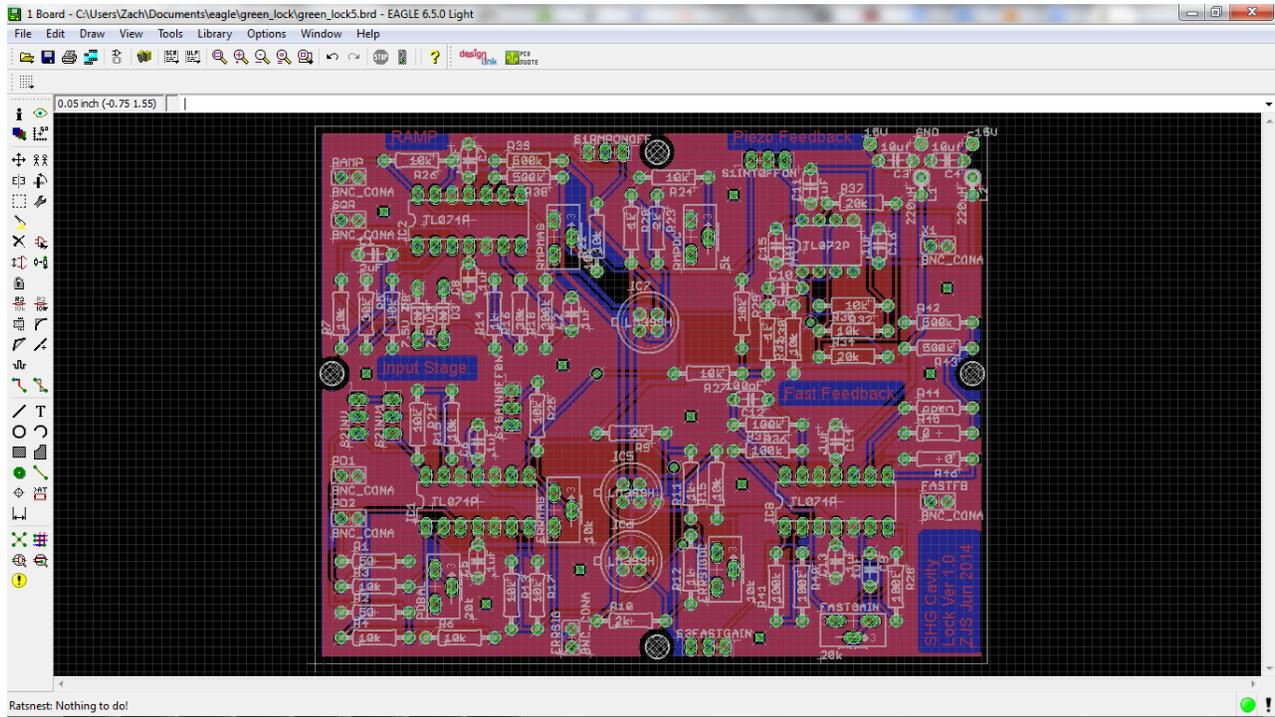

Figure 3: Board Layout
- After that, you can create an identical layer except for the top layer, layer 1. In Figure 3, the red is the top ground plane, the blue the bottom one.